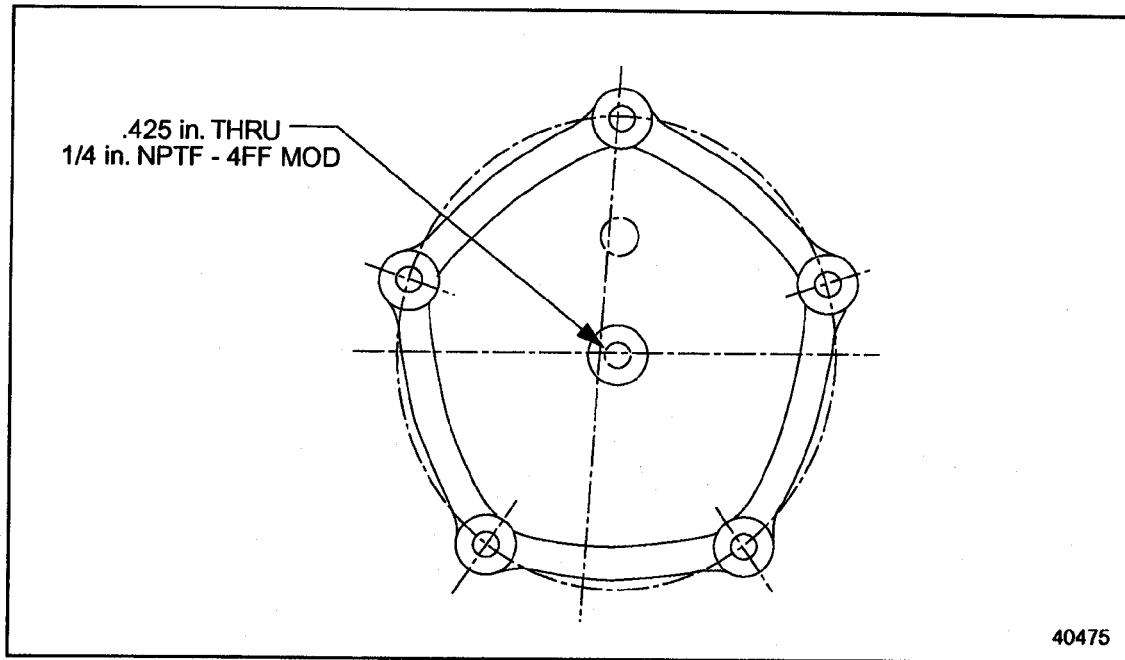

Figure 8-11 Drilled and Tapped Vent Line Hole in Front Camshaft Cover
7. The center hole in the cover has a 1/8 in. NPTF thread which must be enlarged. Using a 0.425 in. drill bit, carefully drill out the tapped hole. Thread the hole with a 1/4 in. NPTF - 4FF tap. See Figure 8-11.